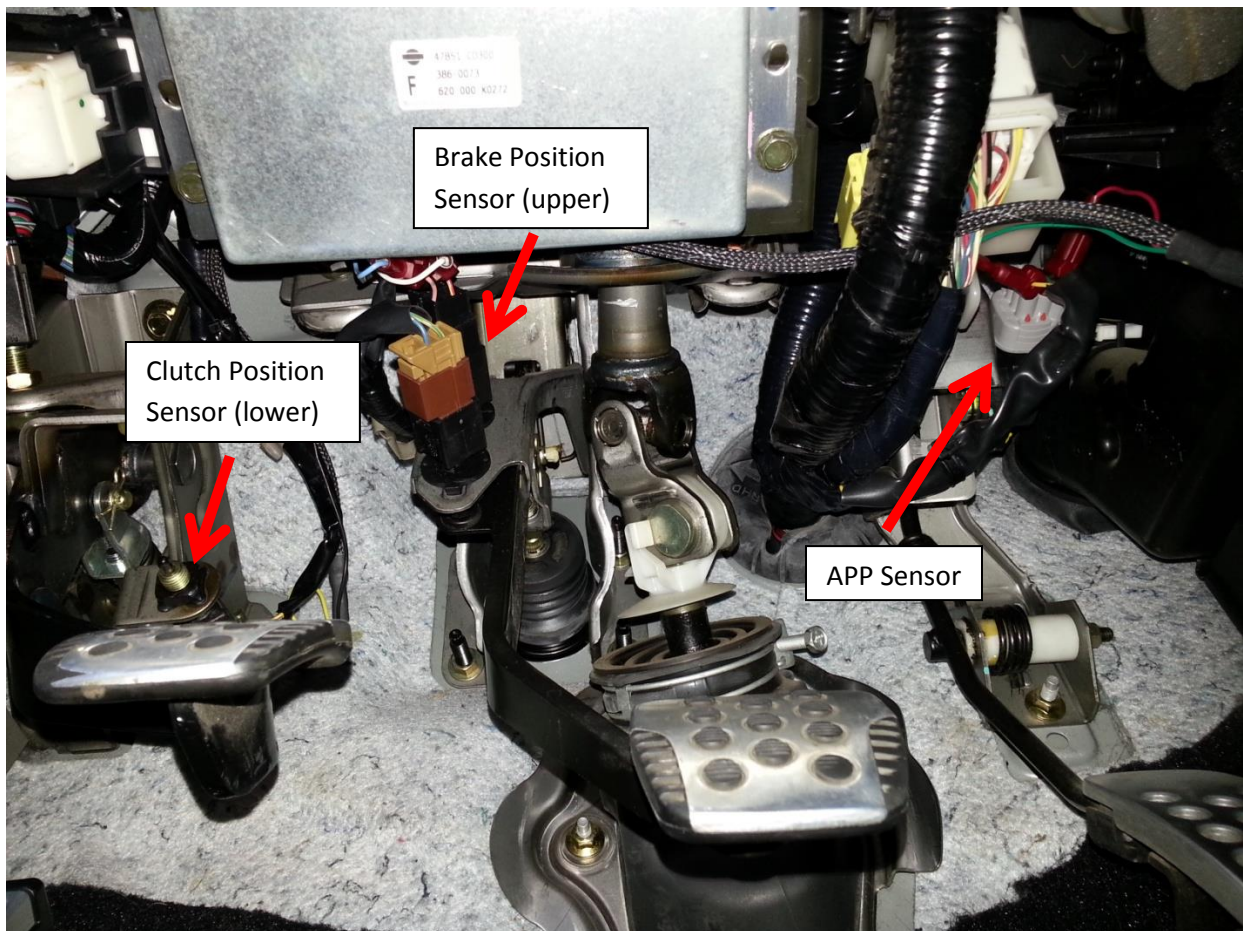

Figure 1 - Sensor Locations (for general placement purposes - pic not specific to 370Z)
1. Locate Accelerator Pedal Position Sensor (APPS) (**Figure 1**).
2. Connect the *AUTO-BLiP* Red wire and Green wire, one each to the Pink and Red wires on the APPS sensor (**Figure 1**).
3. Locate Brake Position Sensor (**Figure 1**)
5. Connect *AUTO-BLiP* Yellow wire to the Grey wire on the clutch safety interlock sensor (**Figure 1**).